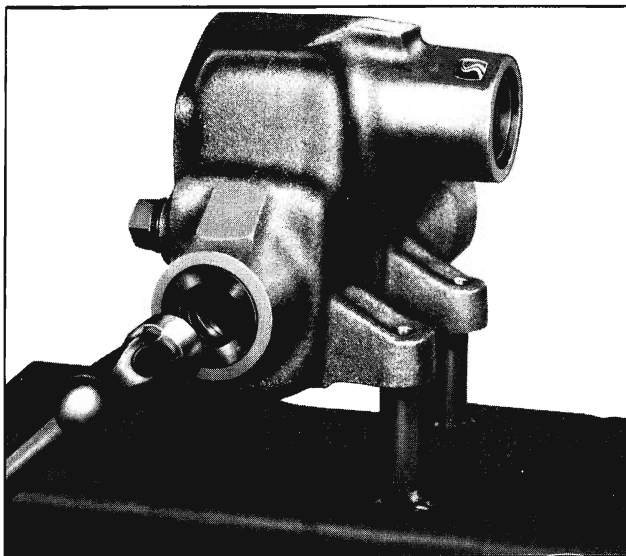

Fig. 9-28 Installing Upper Bearing Seal
4. Install new upper bearing seal (Fig. 9-28).